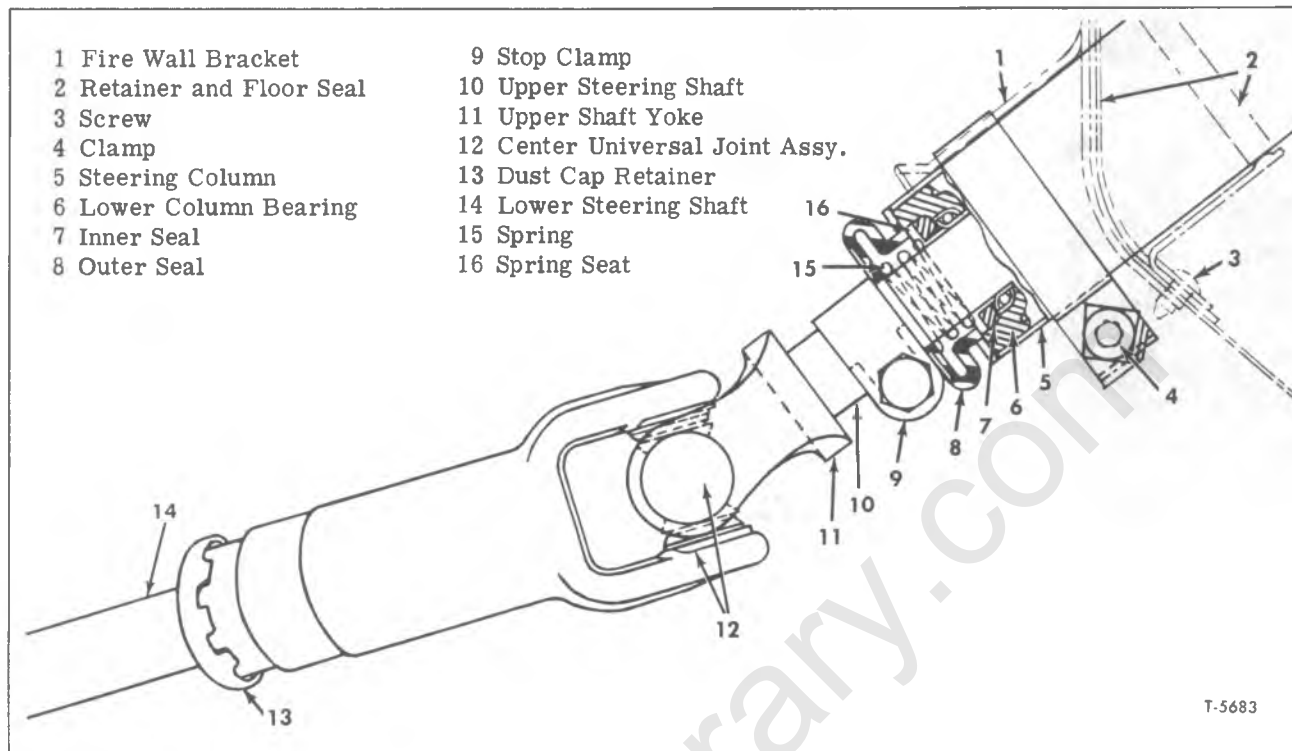

Figure 2—Steering Column Stop Clamp Components (Cowl Model Shown)
4. Adjust "stop" clamp at bottom of steering shaft to allow 0.005" to 0.030" up and down movement of the upper shaft assembly (refer to figs. 2 and 3).